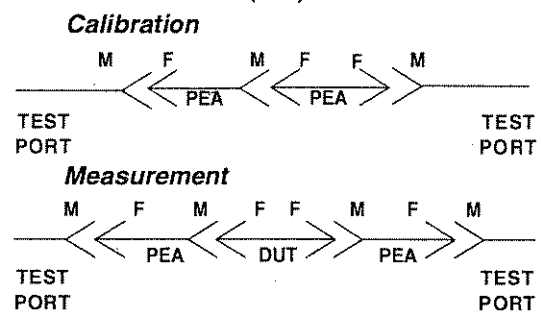

Figure 7-4. Using Phase-Equal Insertables
- It provides a simple solution to measuring non-insertable devices (e.g., a filter with K female input and output connectors), by merely swapping PEAs after calibration. See Figure 7-4.